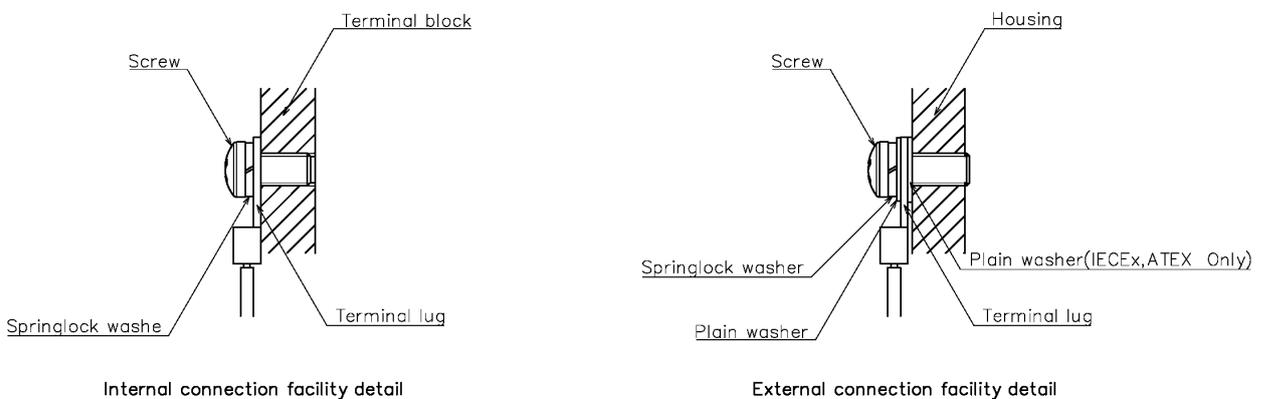

Figure 2.6c Connection facilities detail
5. Assemble the parts of connection facilities as shown in Figure 2.6c.